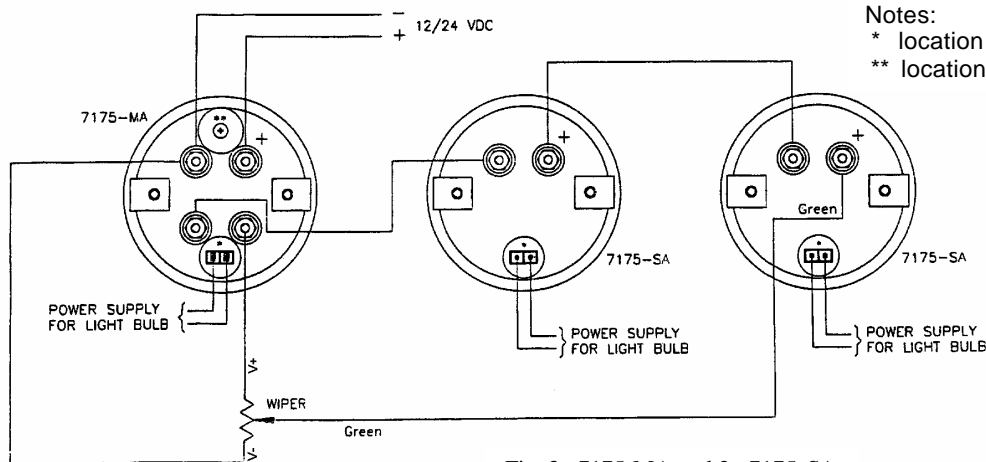

Fig. 3: 7175-MA and 2x 7175-SA
- ✂ Additional stations, if any, are to be connected in series as in figure 3.